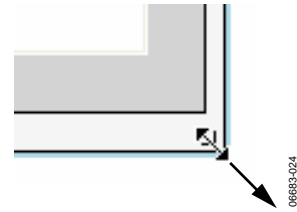

Figure 26. Resizing the Graph
4. Resize the **Graph** component by positioning the cursor over the corner resize handle, drag the component out to a larger size (see Figure 26).